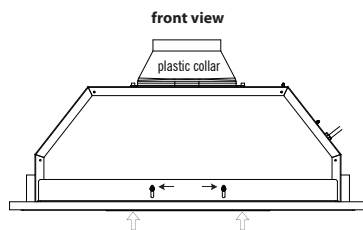

FIG 3
- Avoid left-right or front-dropped installation.(FIG. 3)
(FIG. 3)
6. Align the front plate to the cabinet and secure the bracket to the front side of the hood body by (2) 3/16 x 5/8 washer head screws and (2) washers. see FIG 3